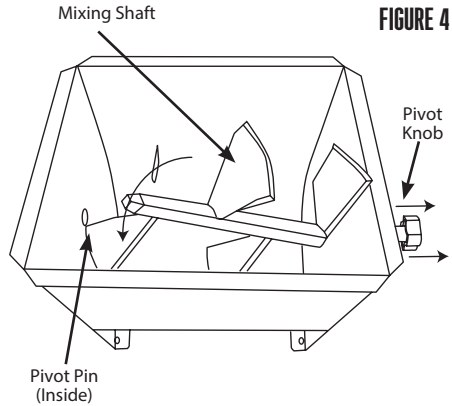

FIGURE 4
8. While holding the Mixing Shaft in place, pull the Pivot Knob out until it stops. Align the Mixing Shaft with the Brass Pivot Pin. Slowly release the Pivot Knob to allow the Brass Pivot Pin to seat in the Bushing (FIGURE 4).